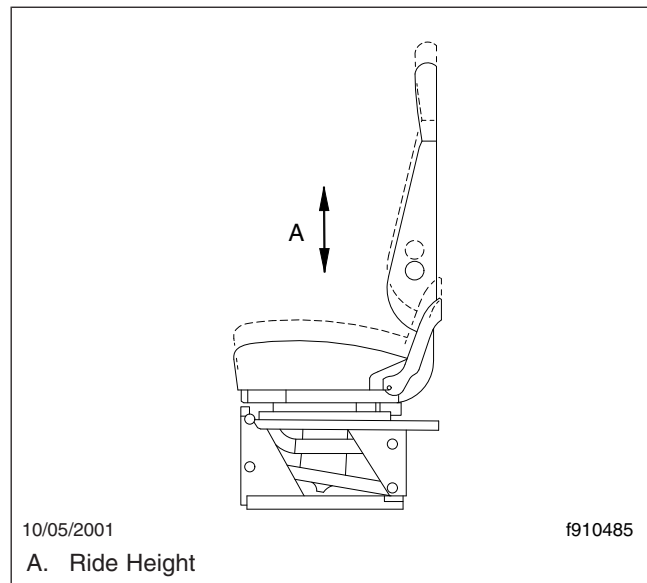

Fig. 5.9, Ride Height Adjustment
8. **Ride Height Adjustment:** The entire seat moves up or down when adjusting the ride height. The adjustment is either manual or air controlled, depending on the make and model of the seat (**Fig. 5.9**).